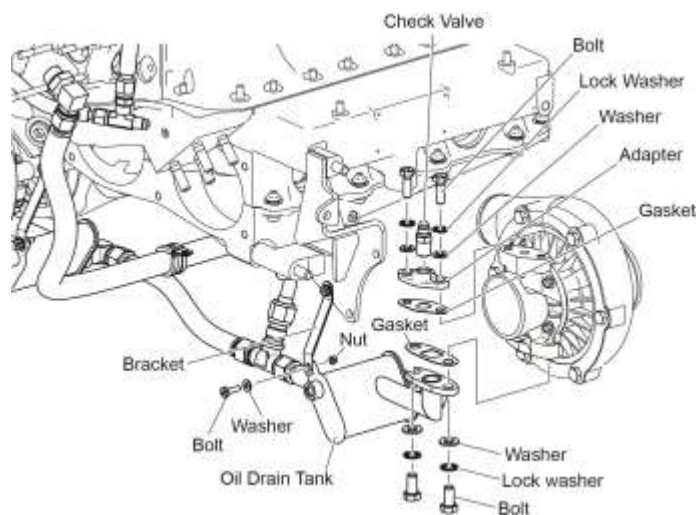

Figure 5
H. Remove the two bolts, washers, and lock washers from the oil drain tank (Figure 5) connection at the bottom of the turbocharger. Discard the lock washers and gasket.
I. Remove the two bolts, lock washers, washers, adapter and gasket (Figure 5) from the top of the turbocharger. Discard the gasket and lock washers.
- L. Examine the check valve (Figure 5) to make sure it is clear and free of FOD. Replace as necessary per the turbocharger manufacturer's instructions.
- E. Install a new oil drain tank gasket (Figure 5) on the bottom of the turbocharger.